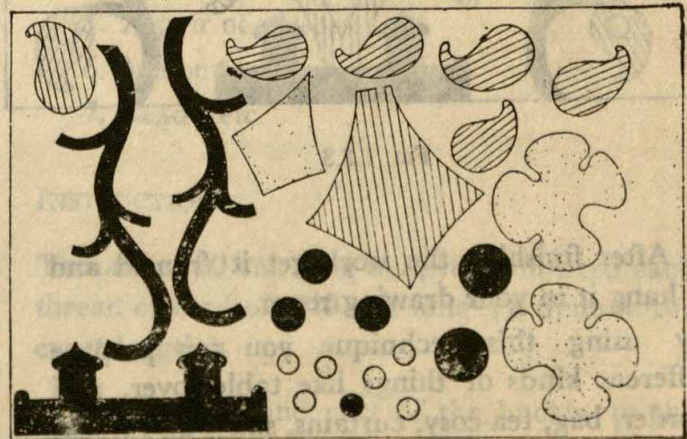

FIG. 1.3.2
3. Cut the fabrics according to the coloured design. (Fig. 1.3.2)